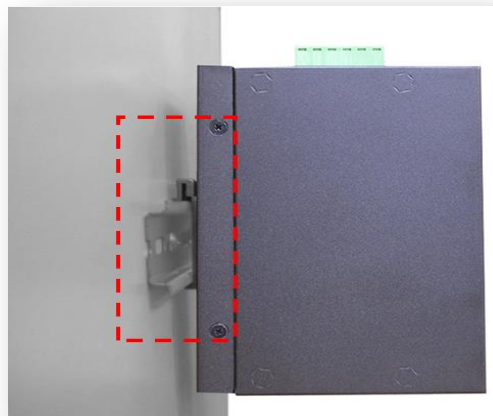

Figure 3.3
4. Lightly pull down the bracket on to the rail as shown below in *Figure 3.3*.